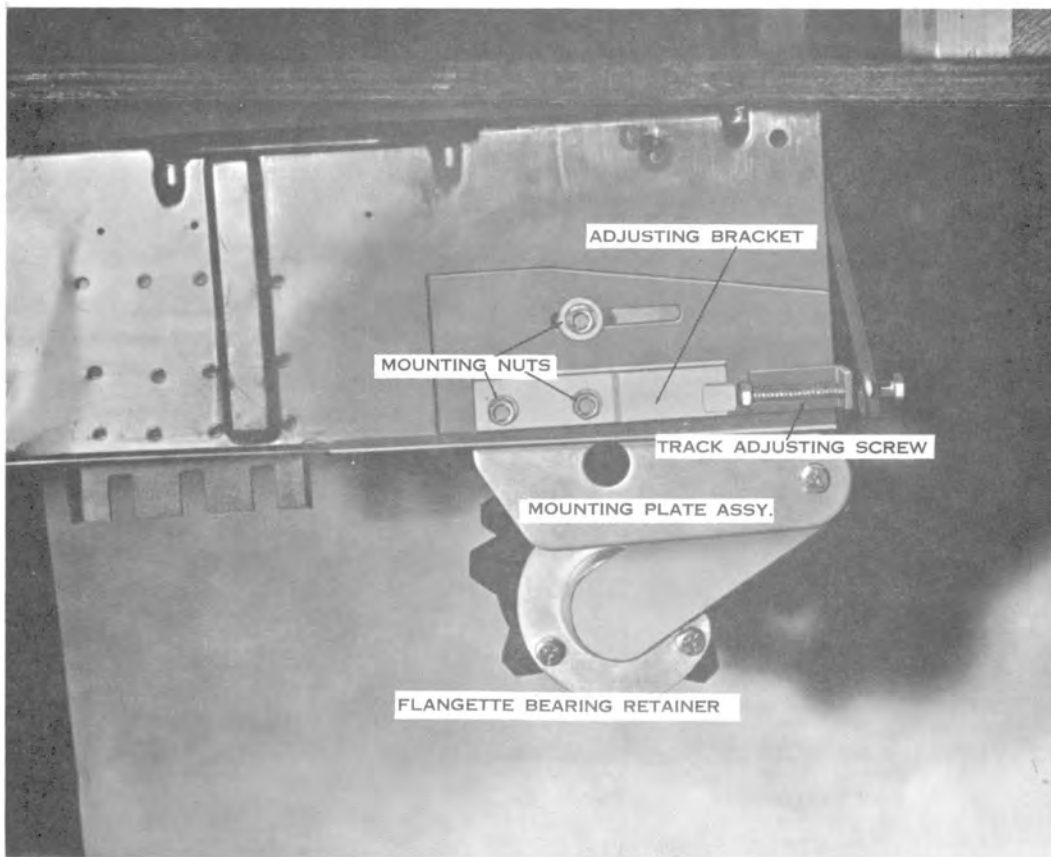

Figure 3
3. Once these distances have been equalized, tighten one mounting nut on each side of the vehicle. (See Figure 3.) Clamp the moveable arms of the rear suspension against the mounting plates with vice-grip pliers or "C" clamps. Next, tighten the flange retaining screws. Remove the clamps and move the axle up and down to make sure that there is no binding between the moveable arms of the suspension and the mounting plates.